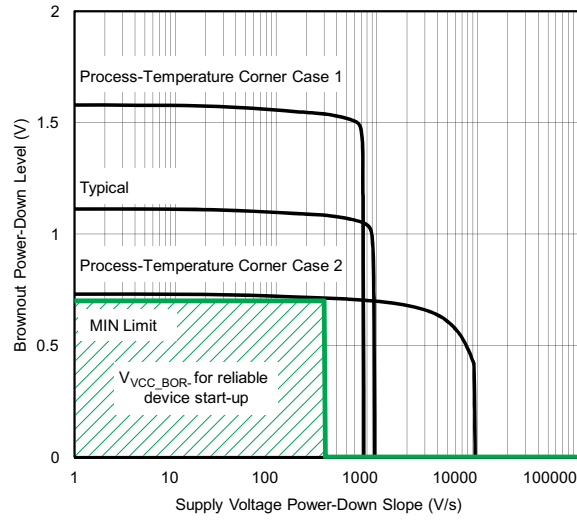

Figure 4-6. Brownout Power-Down Level vs Supply Voltage Down Slope
- The brownout levels are measured with a slowly changing supply. With faster slopes, the MIN level required to reset the device properly can decrease to 0 V. Use the graph in Figure 4-6 to estimate the V_{VCC_BOR-} level based on the down slope of the supply voltage. After removing V_{CC} , the down slope can be estimated based on the current consumption and the capacitance on DVCC: $dV/dt = I/C$ where $dV/dt = \text{slope}$, $I = \text{current}$, $C = \text{capacitance}$.